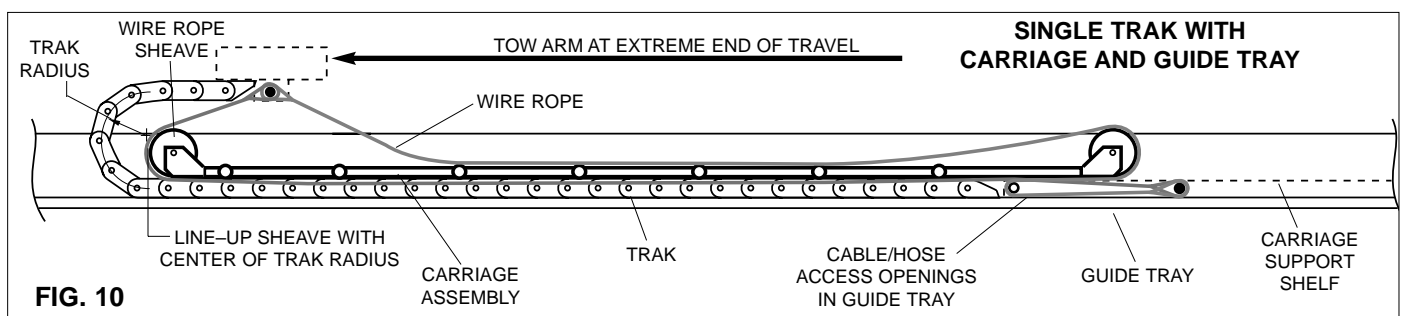

FIG. 10
STEP 5: Move machine (tow arm) to extreme end of travel. (See Fig 10).
STEP 6: Position carriage so that edge of sheave lies at approximate center of loop formed by trak (Fig 10). **NOTE: The wire ropes must lay in a straight path above and below the carriage.**